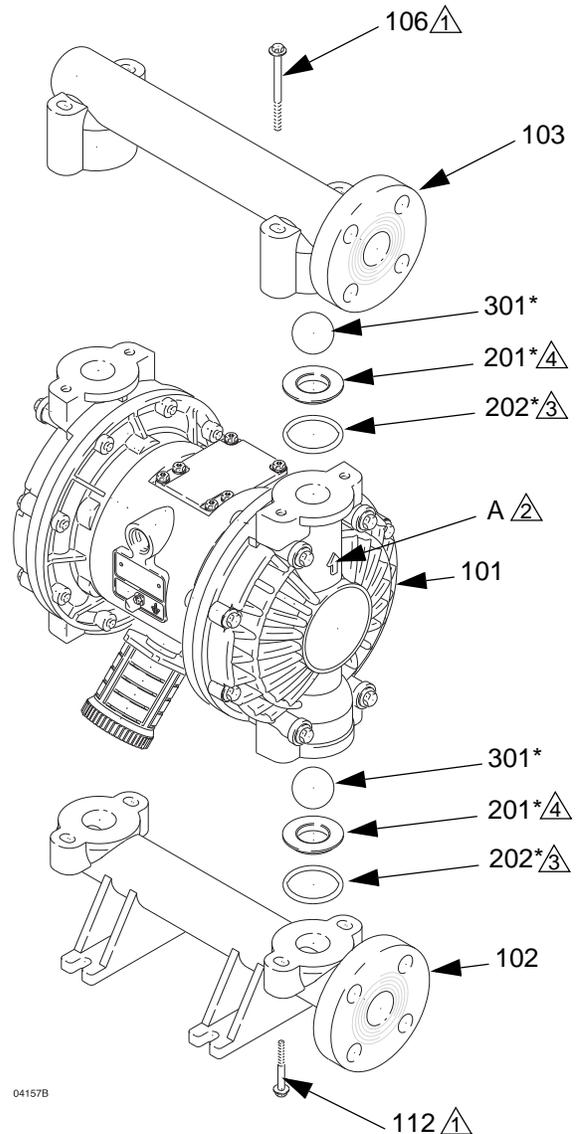

Fig. 11
3. Using a 10 mm socket wrench, remove the four bolts (106) holding the outlet manifold (103) to the fluid covers (101). See Fig. 11.
4. Remove the seats (201), balls (301), and o-rings (202) from the manifold.
2. Reassemble in the reverse order, following all notes in Fig. 11. Be sure the ball checks **exactly** as shown. The arrows (A) on the fluid covers (101) **must** point toward the outlet manifold (103).
- ▲2 Arrow (A) must point toward outlet manifold (103).
- ▲4 Beveled seating surface must face the ball (301).